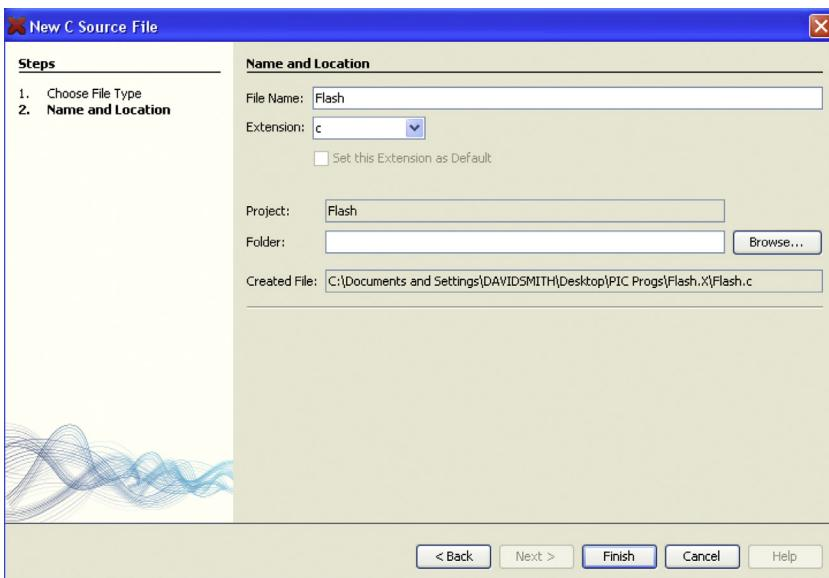

FIGURE 2.35 Locating the file in a folder.
2. Name the file and the location at which to store the file. Click **Finish** (Figure 2.35).